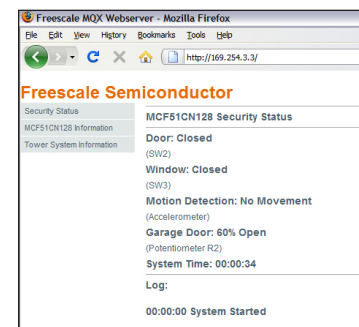

Figure 2: Web Interface
- You should see the Web server welcome page in the browser window, as seen in Figure 2.